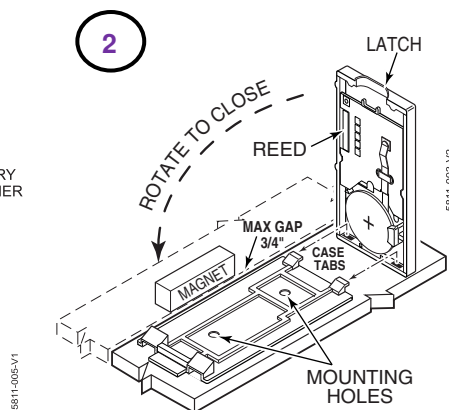

Figure 2. Mounting
2. **Mount the 5811 using double-faced tape** (supplied) by affixing it to the back of the unit and mounting the unit in place. Use screws (optional) if desired; see **figure 2**. Mount the magnet (supplied) near the alignment marks on the case (see Diagram).
3. Engage the case tabs (see **figure 2**), then rotate the housing to close. Engage the latch with firm pressure to close and lock.